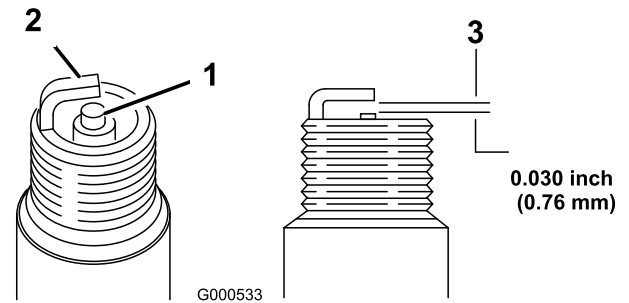

Figure 34
2. Check the gap between the center and side electrodes using a wire feeler gauge (Figure 34). Bend the side electrode (Figure 34) if the gap is not correct.
1. Look at the center of the spark plug (Figure 34). If you see light brown or gray on the insulator, the engine is operating properly. A black coating on the insulator usually means the air cleaner is dirty.